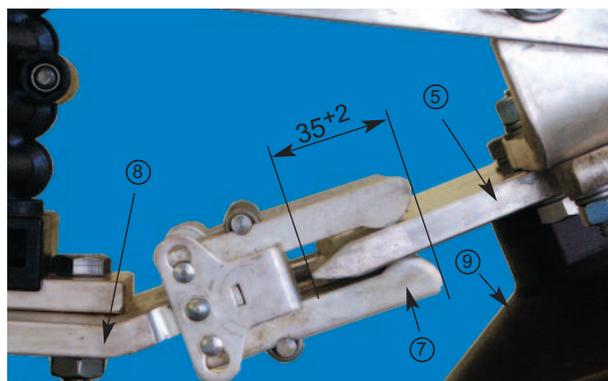
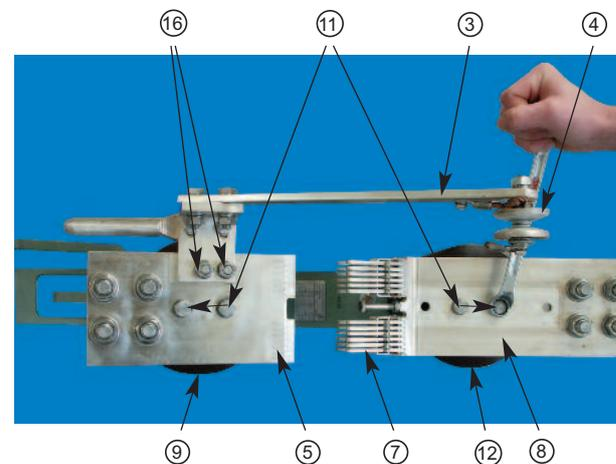
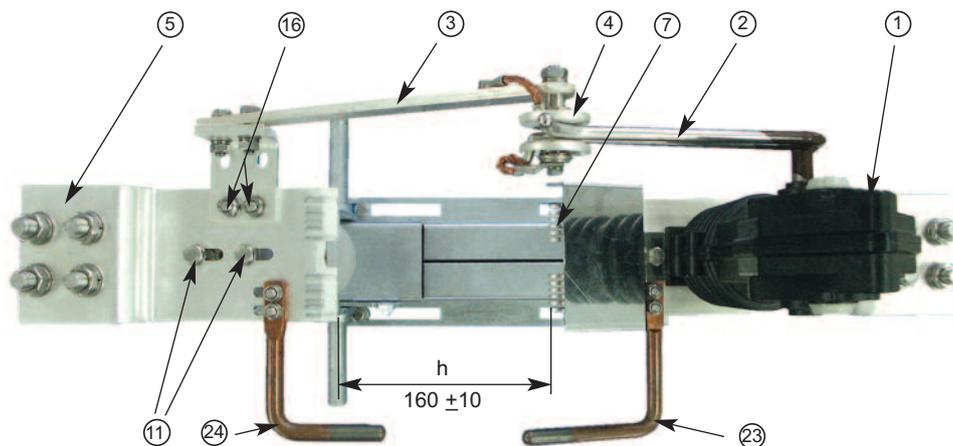

Fig. 21: Adjusting contact finger pairs
Fig. 26: Contact system shown without pre-arcing horns and cover plate
Fig. 28 : Breaking movement (Switching Off)
- Ensure linear arrangement of the new connecting plate (5) toward the fixed contact plate (8) using a straight edge.
- The connecting plate (5) on the hinged insulator (9) must strike in the center of the pair of contact fingers (7) (Fig. 21)
- The connecting plate (5) must be min. 35 mm inside the contact fingers (7) (Fig. 21)
- Tighten fastening bolts M 10x25 (11) of connecting plate (5) (tightening torque: 32 Nm)
- Clean the contact system (7), (5), (4) depending on the degree of contamination (if necessary use solvent or degreasing agent) (fig. 26)
- Apply a very thin coat of lubricant Barrierta L55/1 (of the company Klüber Lubrication) to the contact system (7), (5), (4)
- Remove connecting plate (5) including contact arm (3) and pre-arcing horn (24) from the hinged insulator (9) by releasing the two fastening bolts M10x25 (11) (Fig. 28)
- Install new connecting plate (5) including contact arm (3) and pre-arcing horn (24) on the hinged insulator (9) with the two fastening bolts M10x25 (11) and tighten slightly.
Use the original version to adjust the basic position of the contact arm on the moving connecting plate (5). When doing so, slightly tighten the two fastening bolts M 10x35 (16) (Fig. 26 and 27).
- Ensure linear alignment of the connecting plate (5) toward the stationary contact plate (8) using a straight edge
- The connecting plate (5) of the hinged insulator (9) must strike in the center of the pair of contact fingers (7)
- The connecting plate (5) must be min. 35 mm inside the contact fingers (7) (Fig. 21 Page 22)
- The contact plates (4) of the contact arm (3) must strike centrally in the actuating fork (2) of the arcing chamber (1) (Fig. 28)
Adjustment of the main contacts for the breaking movement: (Fig. 28)
By altering the angle position of the contact arm (3) it is possible to correct the switching points or the adjustments "g" and "h" (Fig. 28 and 29).